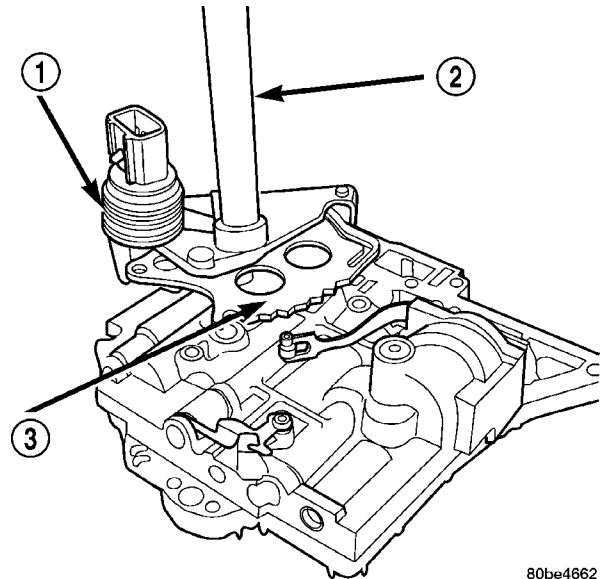

Fig. 319 Manual Shaft/Rooster Comb and Transmission Range Sensor
- (3) Remove Manual Shaft/Rooster Comb and Transmission Range Sensor (Fig. 319).